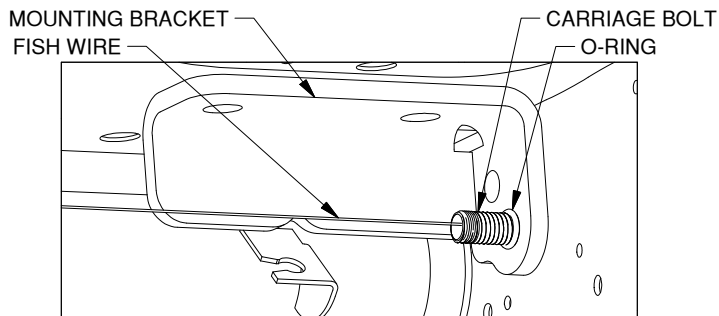

Figure B3: Looking at mounting bracket installation.
- 4. Pull fish wire through frame.** With the fish wire through the locking strap push the locking strap completely into the frame. Next, pull the carriage bolt into the frame. Continue pulling on the fish wire until the threaded portion of the bolt is sticking out of the frame. Thread the mounting bracket and an O-ring over the fish wire and onto the bolt. Push the O-ring tight against the bracket, see Figure B3. This will prevent the bolt from accidentally falling back into the frame. The O-ring will stay on the bolt after the washer and nut are installed and tightened.